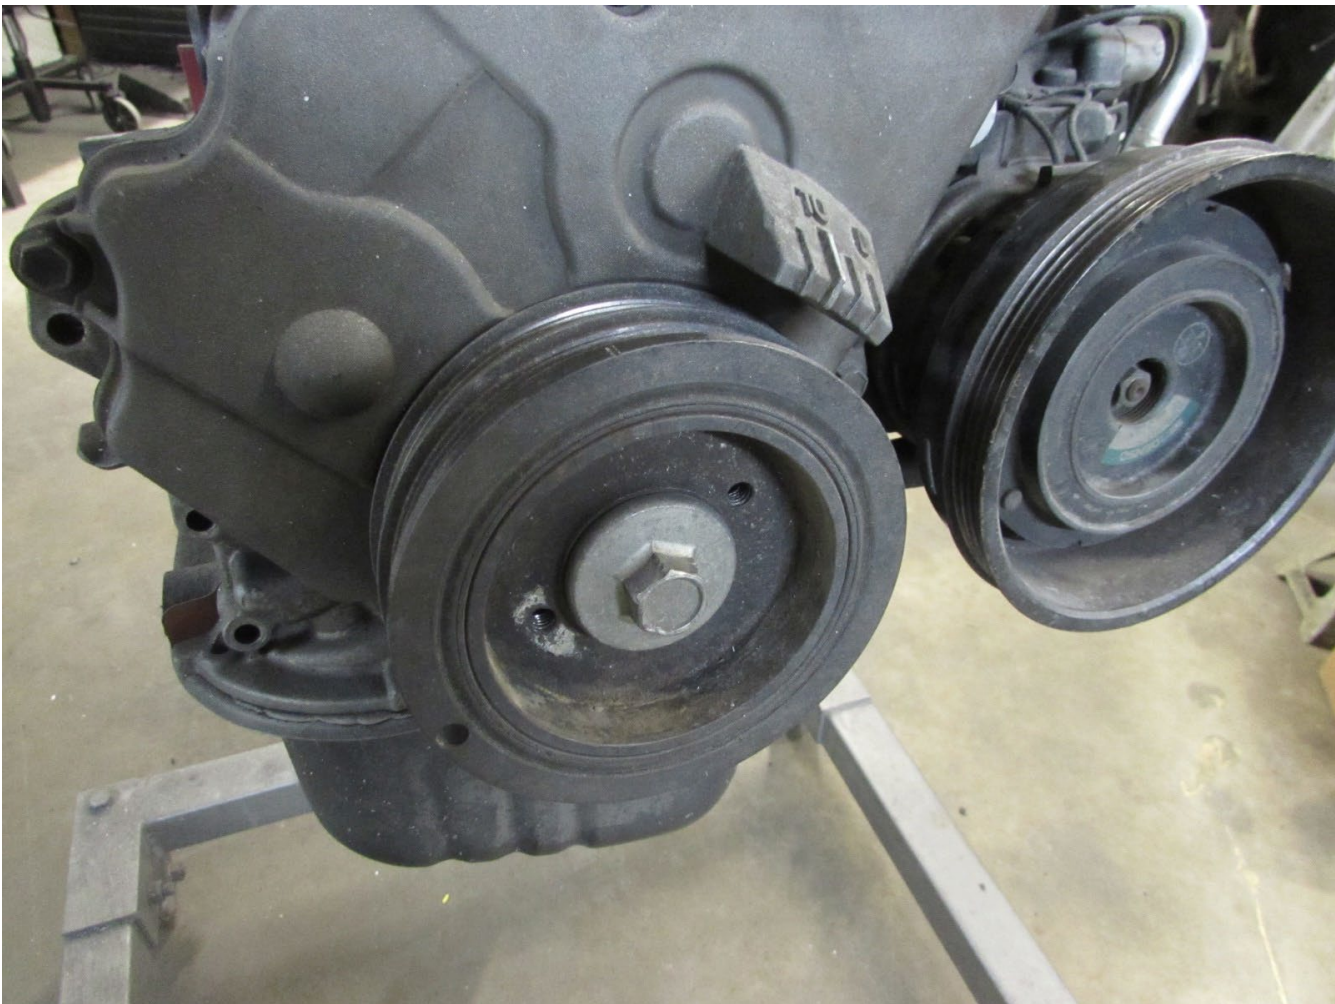

Figure 1
1. Safely raise and support rear of vehicle, remove RH rear wheel. This will allow access to the engine crank pulley. Bring cylinder #1 to top dead center (TDC). **We highly recommend using a dial indicator for this process as the OEM cover can vary roughly 1 to 3 degrees from true TDC.** (Fig 1)